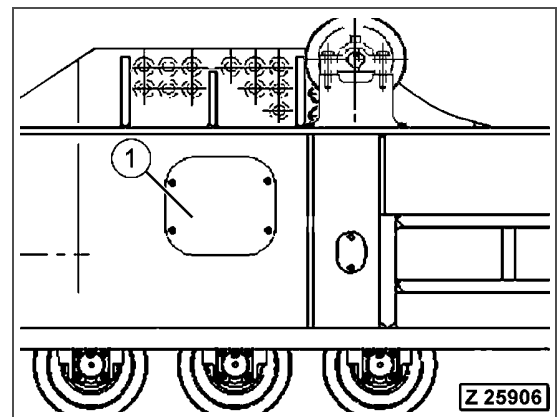

Fig. 4-40
3. Remove the cover (Fig. 4-40, Pos. 1).